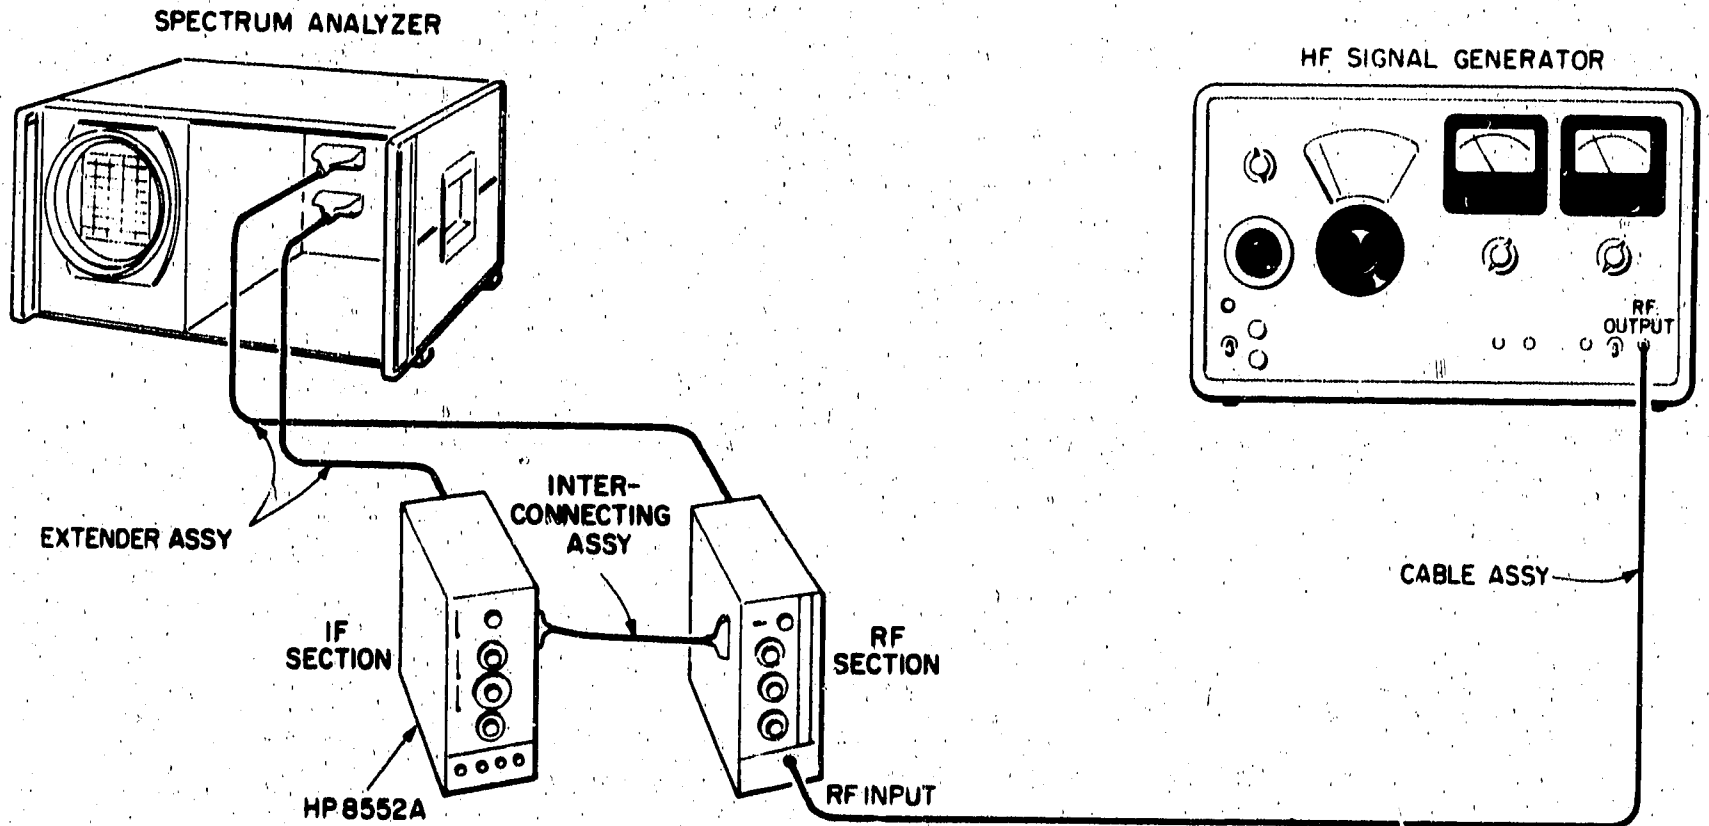

Figure 5-11. 300 kHz Bandpass Adjustment Test Setup
1. Connect the test setup shown in Figure 5-11 and make the following control settings: